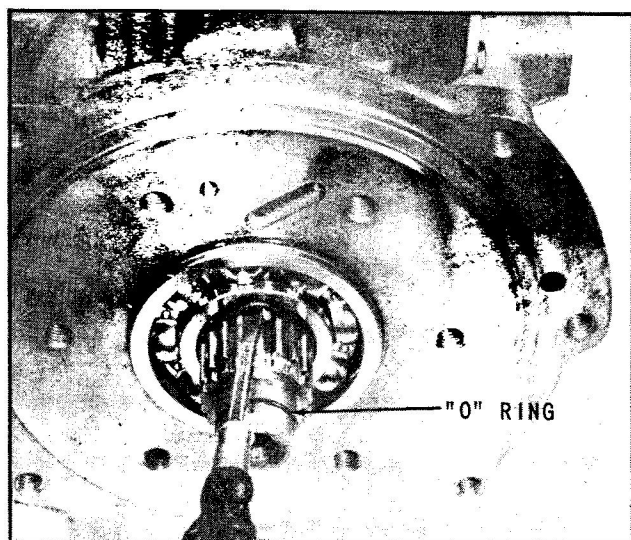

Fig. 59 Assemble "O" Ring (Retainer removed to show "O" rings)
5. Install large "O" ring behind bearing and small "O" ring in groove at rear end of output shaft, (Fig. 59).